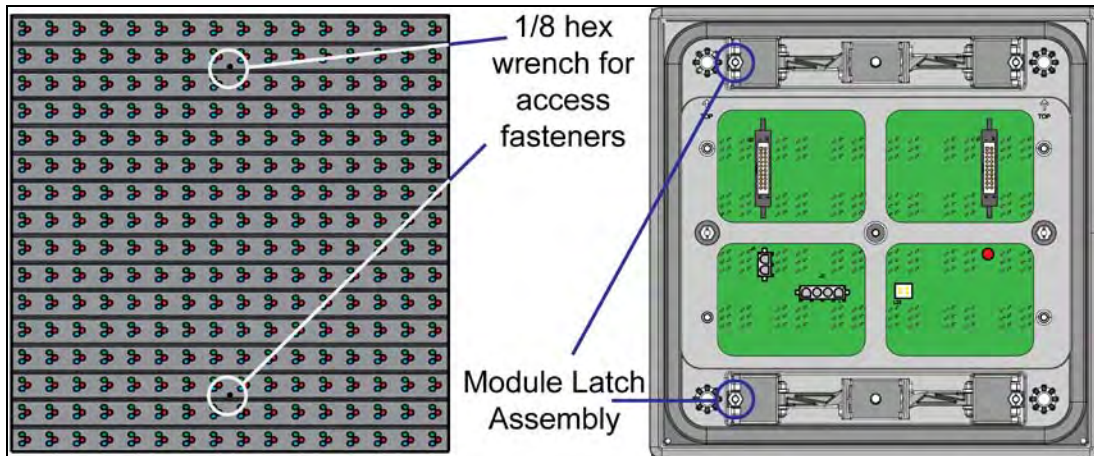

Figure 15: Module Access Locations
2. Locate the latch access fasteners shown in **Figure 15** on the module.
4. Disconnect the two ribbon cables from the module by spreading the tabs on the sides and then lifting the cable head from the jack. Note how they are connected to the back. A generic display module is shown in **Figure 15**.